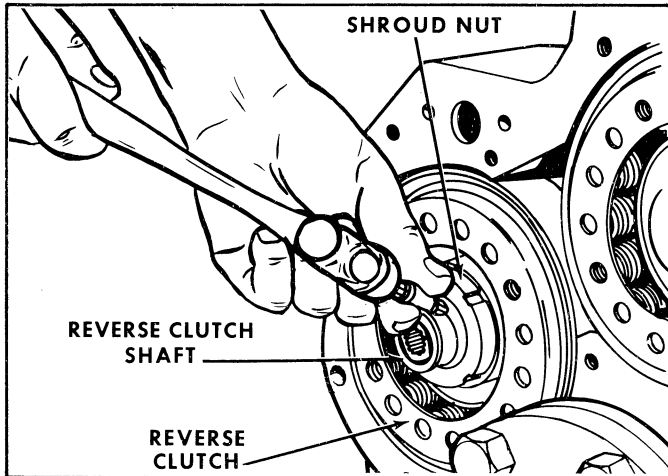
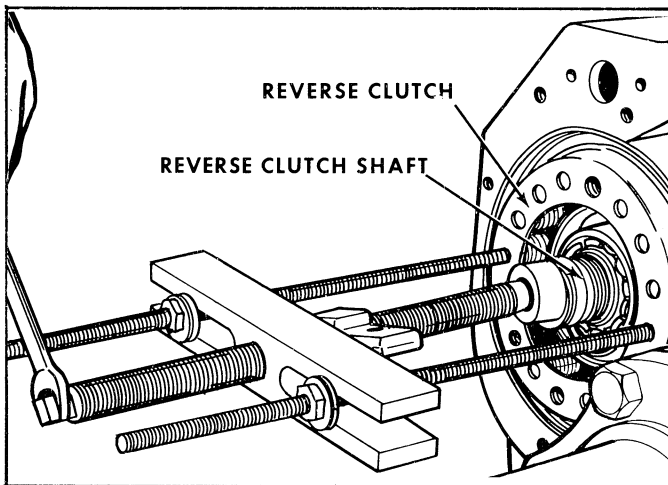
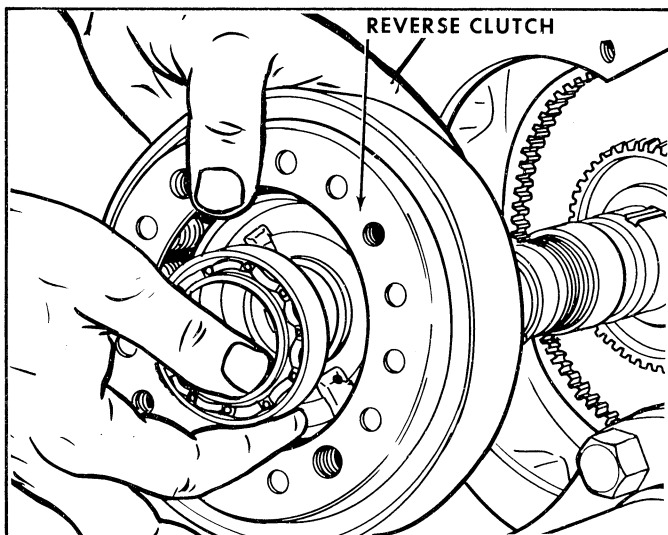

Figure 24. Straightening the Lip of the Shroud Nut.
Figure 25. Removing the Reverse Clutch with a Standard Bar Puller.
Figure 26. Removing the Reverse Clutch from the Main Housing.
(8) Remove the piston ring from the reverse clutch shaft. Discard the piston ring. Straighten the lip of the shroud nut on the reverse clutch shaft, (fig. 24). Use special tool T-9069, and remove the shroud nut from the reverse clutch shaft. Use a standard bar puller with a stud installed in each 3/8-16 UNC tapped hole in each locating pin positioned in the piston carrier, and remove the reverse clutch shaft ball bearing and piston carrier (fig. 25), with attached parts, from the reverse clutch shaft. Remove the parts through a cut-out in the output flange (fig. 26).